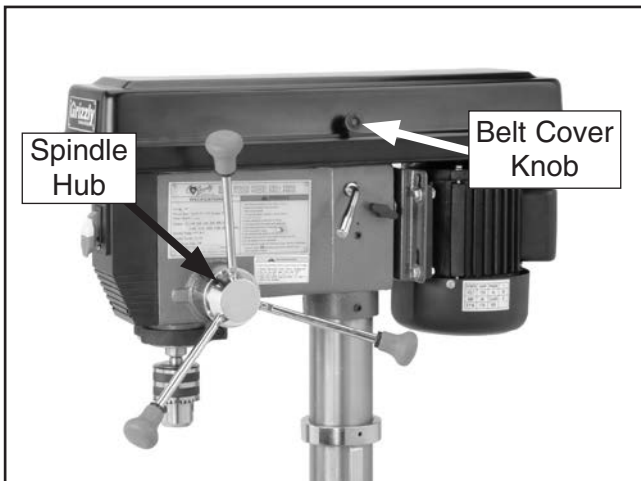

Figure 17. Downfeed handles and belt cover knob installed.
1. Thread the handles into the spindle hub, as shown in **Figure 17**, and tighten.
2. Install the belt cover knob in its place (see **Figure 17** for location).